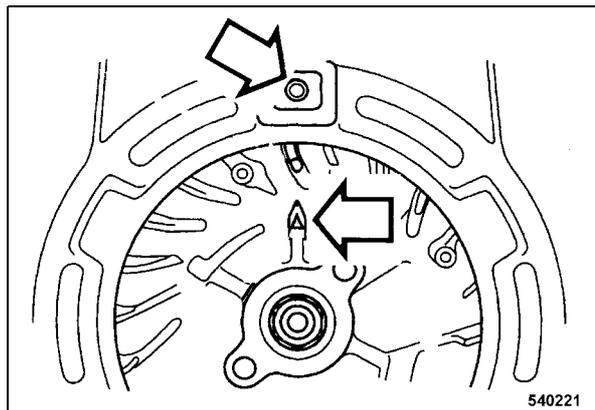

Fig. 50
- Align the alignment mark Δ on the flywheel rib with the top bore in the fan cover (Fig. 50).